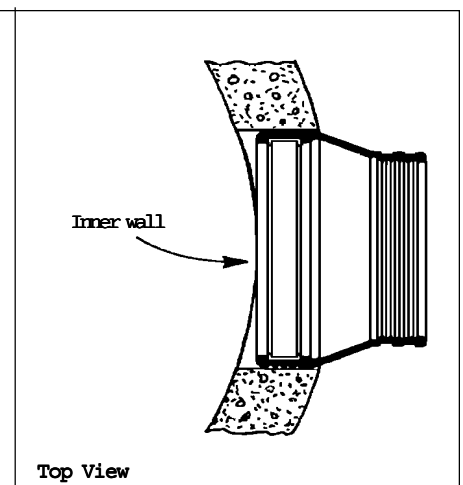

Fig. 3
3. Position Connector so it is square to manhole both vertically and horizontally. (Fig. 3)